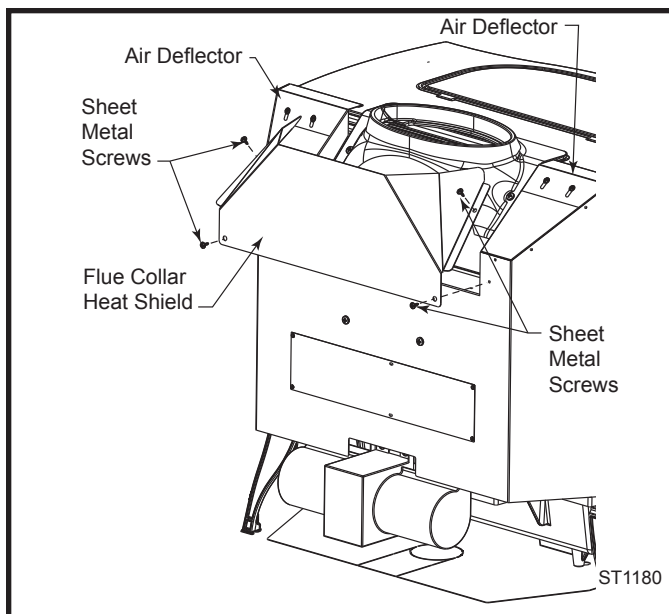

Fig. 17 Install flue collar heat shield.
If you have the optional fan kit, you may decide to adjust the air deflector to blow heat across the top of your stove. (Fig. 17) Loosen the two (2) screws on each side and raise or lower the deflector. After adjustment, tighten the screws.
WARNING: The flue collar heat shield must be attached to the Encore stove. Use four #10 sheet metal screws supplied to secure the flue collar heat shield to the rear of the stove. (Fig. 17)